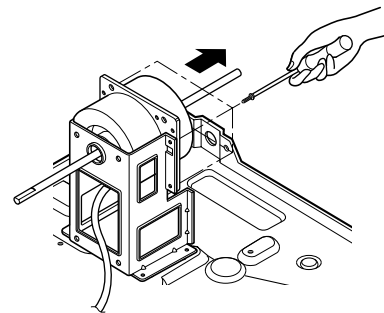

Figure 9
5. Remove the 4 screws which fasten the motor. (See Fig. 9)